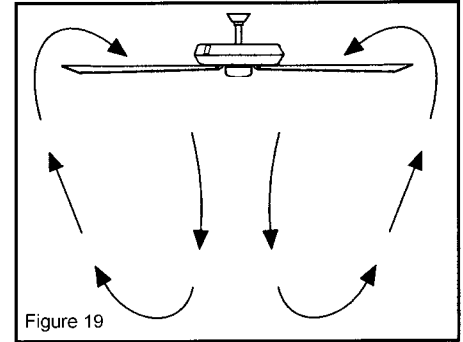

Figure 19
**Warm weather – (Forward)** A downward air flow creates a cooling effect as shown in Figure 19. This allows you to set your air conditioner on a higher setting without affecting your comfort.